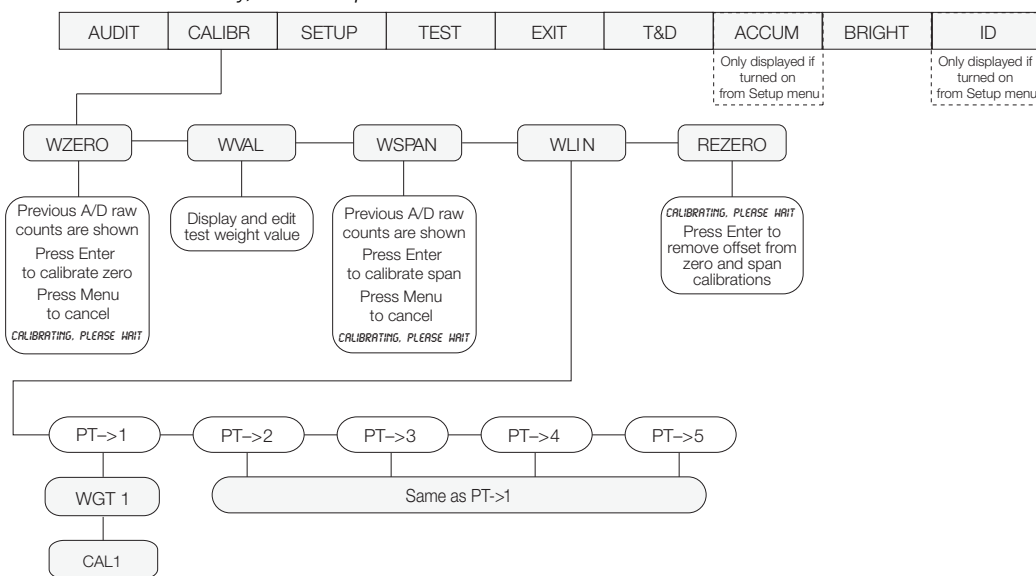

Figure 4-1. Calibration (CALIBR) menu
Calibration can be performed in two places within the menu: the CALIBR menu shown in Figure 4-1 and the SCALE submenu shown in Figure 3-5 on page 16. The CALIBR menu is a “quick access” calibration; for more in-depth scale setup and calibration, use the menus found under SETUP»CONFIG»SCALE.
1. Press the MENU button, then press \triangleright until the display reads CALIBR (see Figure 4-1).